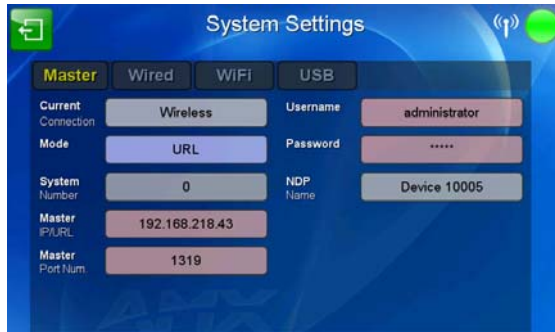

FIG. 28 System Settings page - Master Tab
2. The *Current Connection* field displays the current connection availability (FIG. 28). If this field reads “Any”, then connections may be made via Ethernet, wireless Ethernet, or USB.